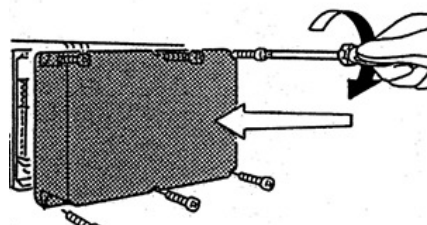

fig.40
8. Refit the cover of the hoist's electrical box and tighten the six screws. (fig.40)